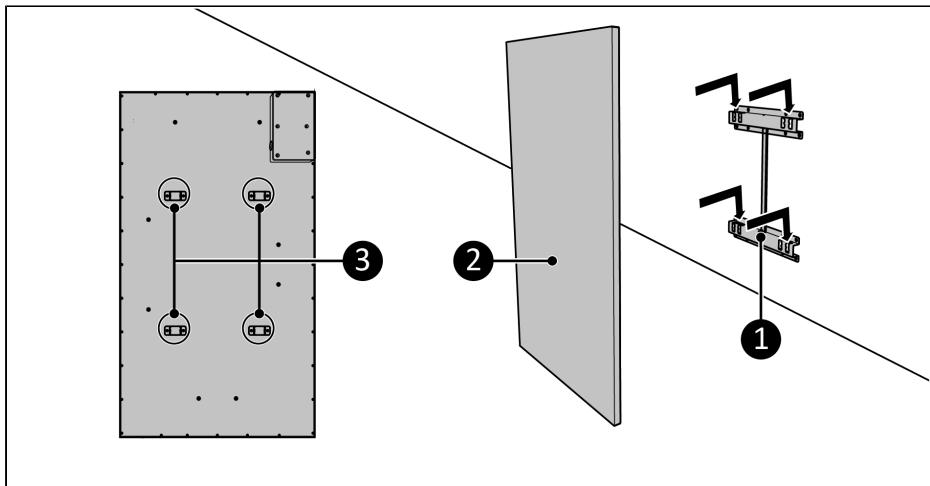

Figure 34.
5. Place the device brackets (Figure 34, pos. 3) over the wall bracket (Figure 34, pos. 1).
6. Slide the device (Figure 34, pos. 2) into the openings of the wall bracket (Figure 34, pos. 1).